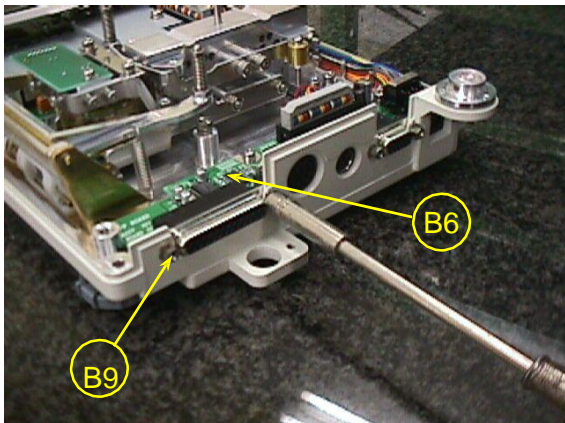
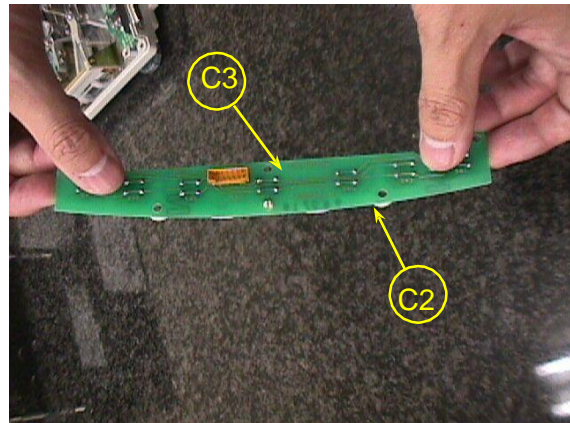

Fig.9
Fig.10
- Detach the Assy,Case (3) / Assy,Pan support (4) in accordance with the steps outlined in “3. Inspection of the Balance Interior”.
- Unscrew the two P4 M4x8 screws (B10) fixing the Assy,I/F (B5). Loosen the four CDHWE101S00 screws (B9) securing the external key connector (15-pin connector) and the RS-232C (D-Sub25 pin connector) to detach the Assy,I/F (B5) (Fig.9).
- Disconnect the Cable,L105 connector (14) from the Switch board assy (C3).
- Detach the Spacer for switch (C2) from the Switch board assy (C3) (Fig.10).